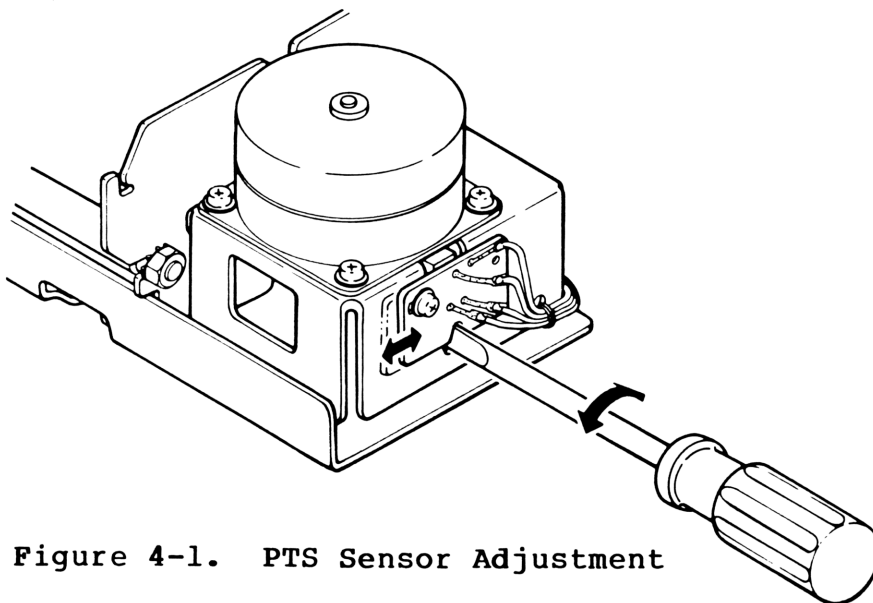

Figure 4-1. PTS Sensor Adjustment
1. Loosen the screw on the PTS sensor PCA. See figure 4-1.